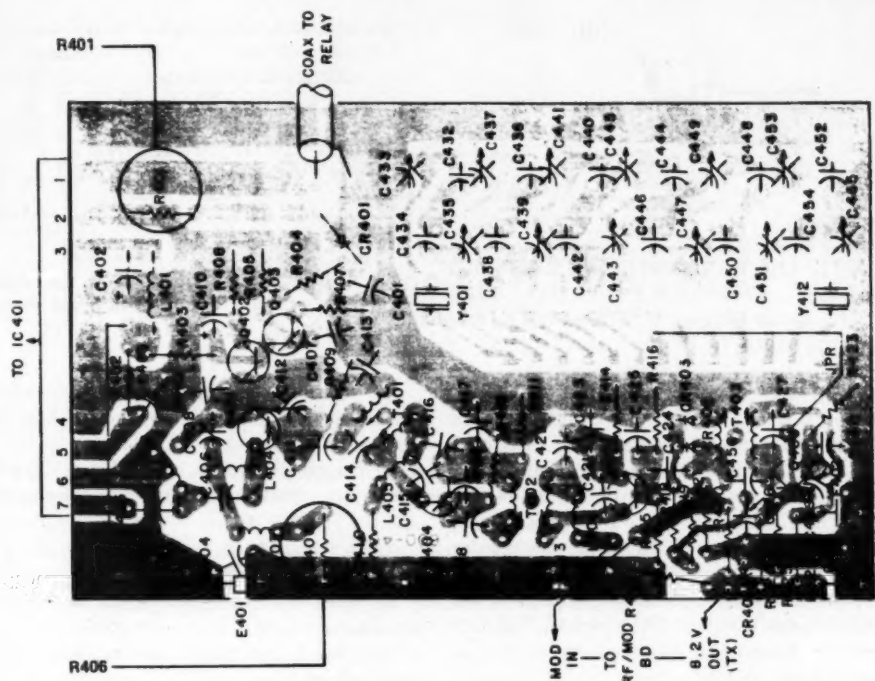

Fig. 6. Transmitter board 600-406, foil side.
3. Locate R401 on the transmitter board; see Fig. 6. Check its value. If it is 150 Ohms, as was installed in the first factory production run, replace it with an 82 Ohm, ¼ Watt resistor. This factory authorized modification desenses the Vswr limiting circuit to improve output power levels into slightly mismatched antenna systems. Re-install speaker.
14. Solder one end of a 10 Ohm resistor, namely R406 removed in Step 4, to the center terminal of the switch. Solder the other end to a 4" piece of insulated #24 wire. Use a large piece of spaghetti to completely cover the resistor and solder joints. The other end of the wire is soldered to the plated-through hole in the transmitter board, formerly occupied by R406, that is electrically connected to L403. It is the hole furthest away from the wall. See Figs. 6 and 12. The resistor and wire should also have